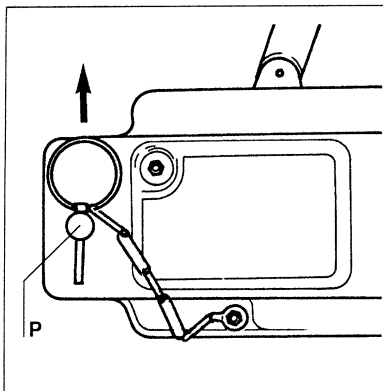

Fig. 9 - T-500D series. Anchor locking pin in **unlocked** position for removing anchor pin.
- 1 - Remove the anchor locking pin (see Fig. 9) and withdraw the anchor pin (P).